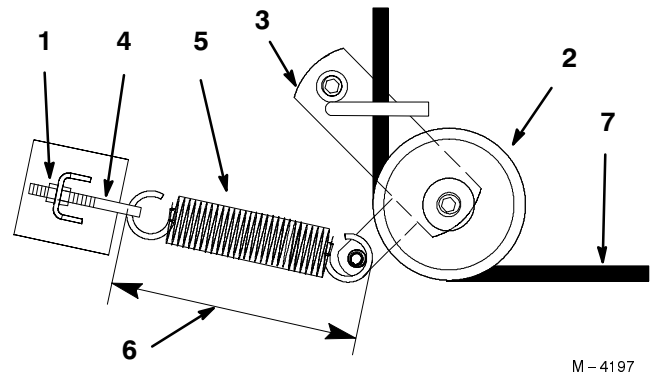

Figure 61
3. Loosen outer nut on spring eye bolt (Fig. 61).
5. Remove spring loaded idler pulley (Fig. 61).
6. Route new belt through idler arm (Fig. 61).
8. Retighten outer nut on spring eye bolt (Fig. 61).
Note: Check spring length. The spring should measure 9.375 ± .125 in. (238 ± .3 mm) when installed. Adjust if it does not (Fig. 61).